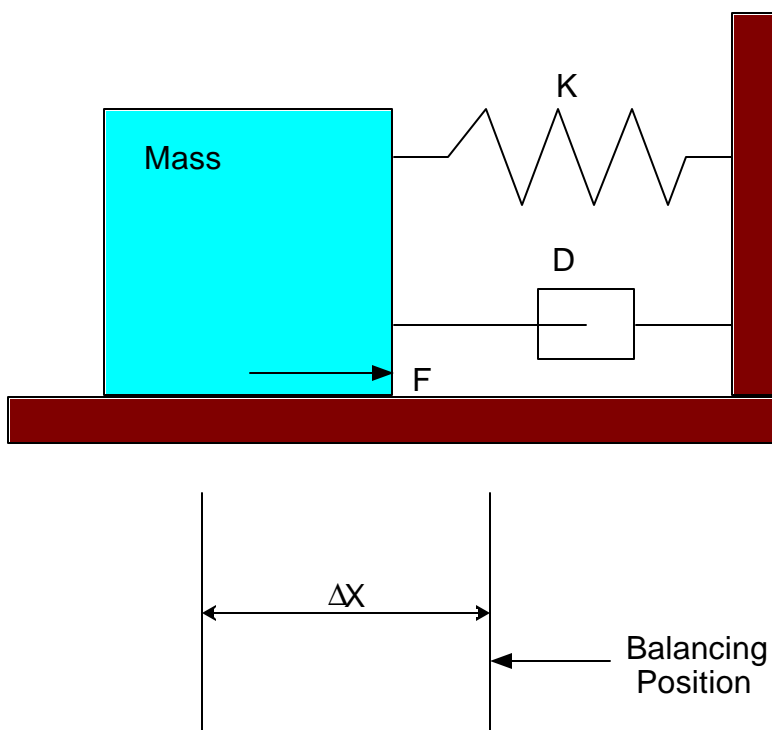
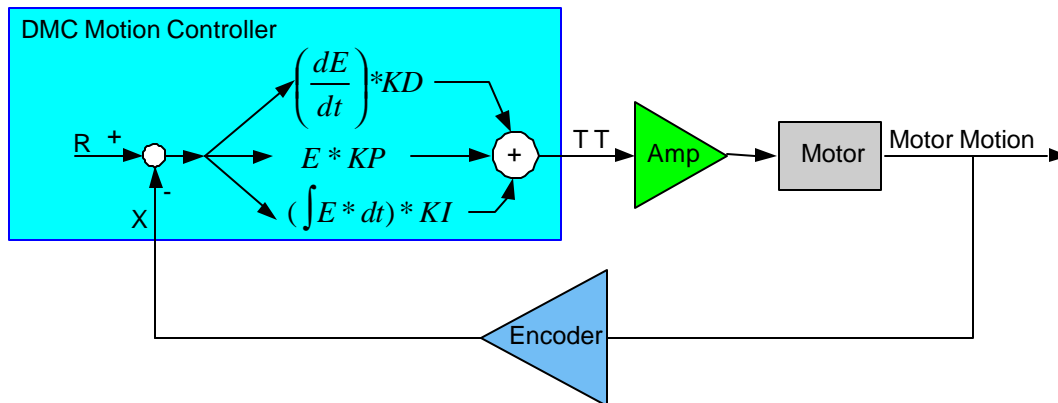

Figure 1. Spring-Damper and Mass
Figure 2. System Diagram
Begin with a very simple physical model: a spring-damper and mass system (see Figure 1). K is the spring constant, and D is the damping ratio. If the mass is pulled away from the balancing position, the magnitude of the combined force exerted by spring and damper on the mass should be:
Now, look at the system block diagram of the controller-amplifier-motor displayed in Figure 2.
To help understand the physical meaning of KP , KD and KI , compare the system in Figure 2 to the simple system in Figure 1. Consider the real position X is to be the true location of the mass, the command position R to be the balancing point, the position error E to represent ΔX , and the force F to be the MOCMD output (TT). Then one will easily see that KP is actually equivalent to the spring constant K in Figure 1, and KD is equivalent to the damping ratio D . Even though there is no equivalent physical model for KI in our simple system, the following graph attempts to explain intuitively how it will affect the TT output.